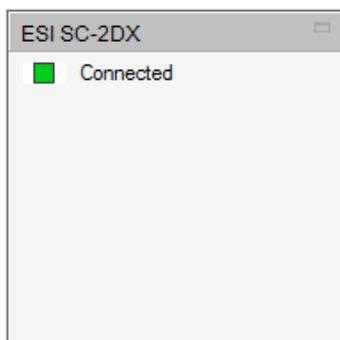

Figure 14-39. Opening the autosampler view
- a. Open the autosampler display by clicking the headline, see Figure 14-39.